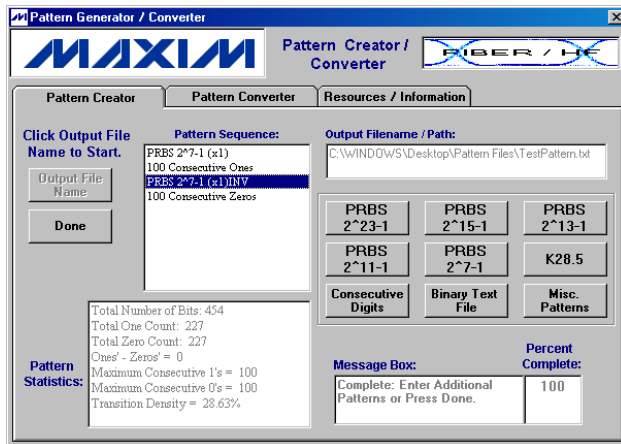

Figure 14. Creator Example Step #8
sequence list adds the letters INV to the end of the PRBS sequence to indicate it was inverted (Figure 14).
- The pattern is now created. As seen in the pattern statistics, the pattern is balanced (same number of ones and zeros). Given the long CID sequences that were added, the transition density is much less than 50% (Figure 14).